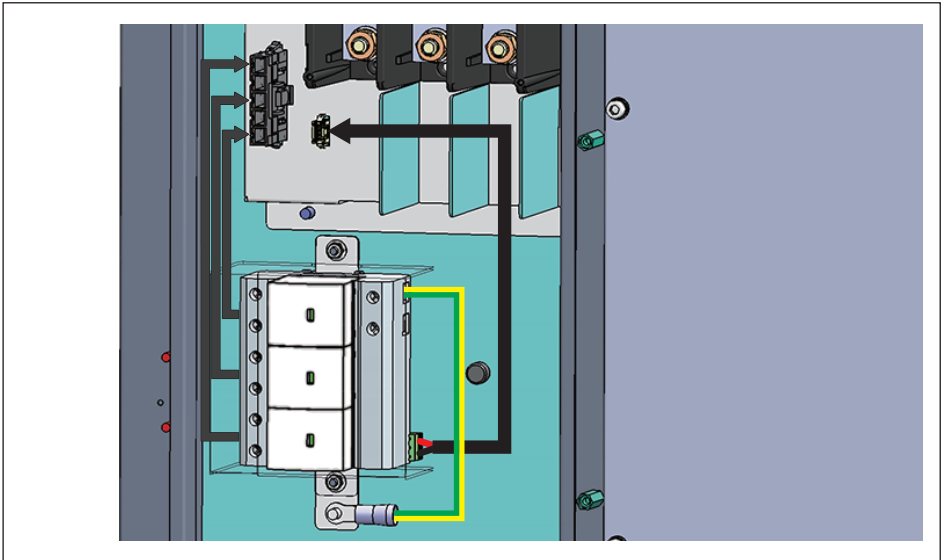

Figure A-10: Connect the spare parts of wiring connectors
5. Connect the spare parts of wiring connectors refer to **Figure A-10**.